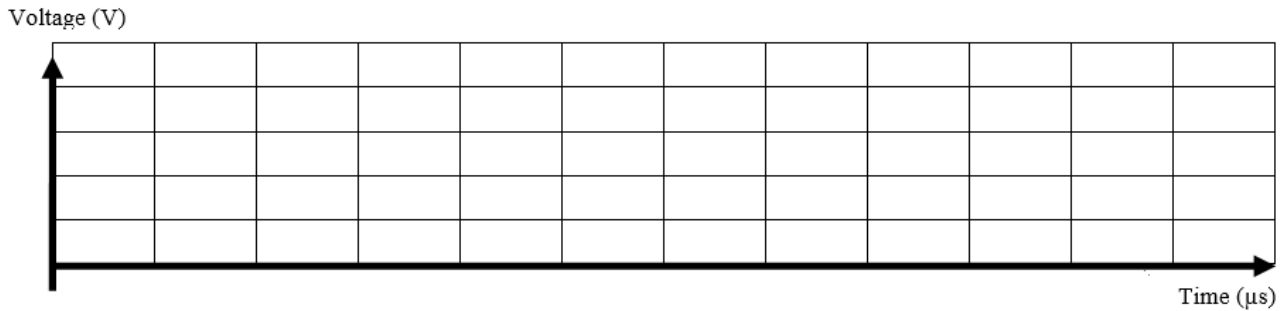

Fig. 15: Acquired Waveform for capitalized letter 'U'. `Serial.begin(19200, SERIAL_8E1)`.
- Plot the waveform for the following configuration in Fig 15, 16 and 17. Identify the START bit, STOP bit(s) and the data payload. Also include the timing information, i.e. duration of one UART bit width.